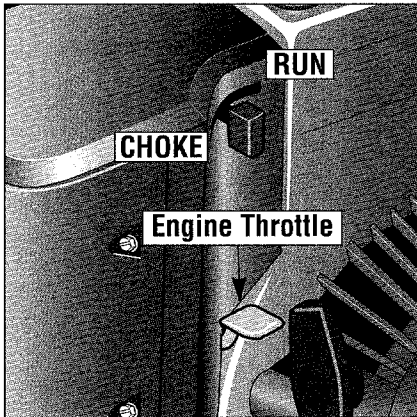

Figure 4-5: Choke Control Lever on the 7HP engine. Left for CHOKE; right for RUN.
6. Move engine Choke Control Lever to CHOKE position (see Fig. 4-5 or Photo 4-6). **Note:** a warm engine may start without choking it.